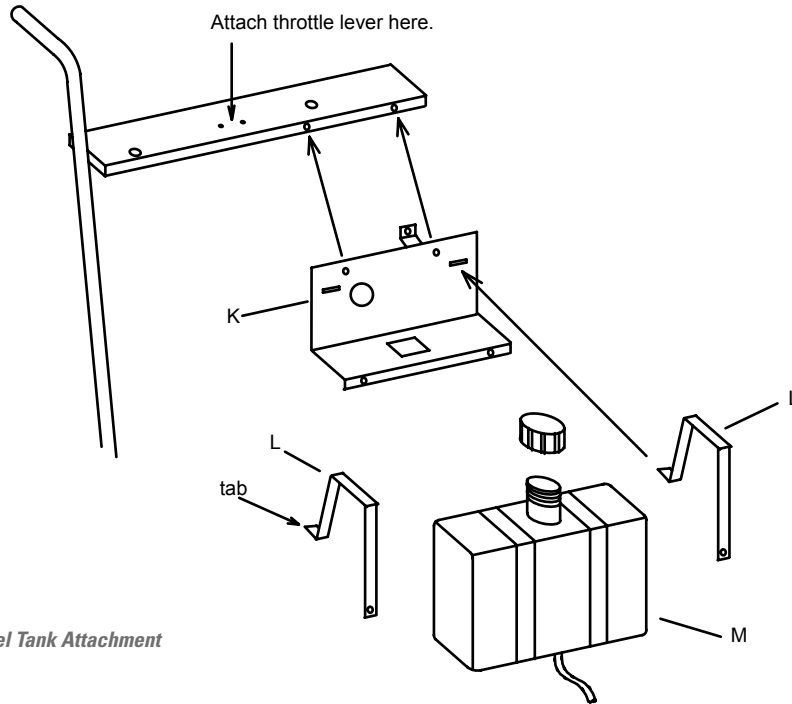

Fig. 2 - Fuel Tank Attachment
7. **See Figure 2.** Place tank straps "L" in the tank bracket "K" slots and bend tabs up and back against the bracket. Bolt the tank bracket to the handle bar assembly using three round headed bolts, with the round heads of two bolts against the fuel tank. Place the fuel tank in position and attach the straps at their lower end using two bolts.